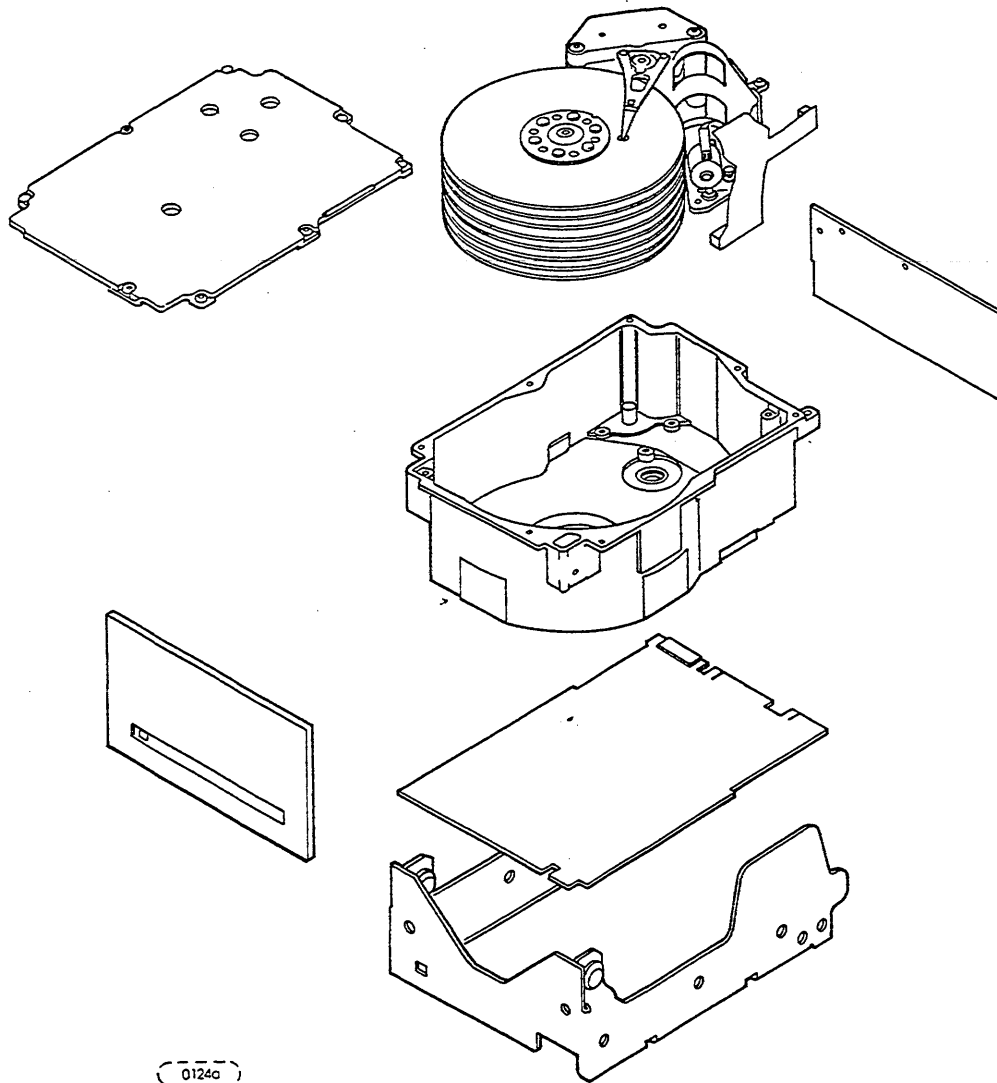

FIGURE 3.0-1. ST41200N/ND WREN 7
Refer to Figure 3.0-1 for an exploded view of the WREN 7. NEVER disassemble the WREN Head/Disc Assembly (HDA). This exploded view is for information only. Servicing items in the sealed environmental enclosure (heads, media, actuator, etc.) requires special facilities. The drive contains no parts replaceable by the user.
- Front panel (optional LED lens colors red, amber, green) - See Figure 3.0-1
- Front Panel Kit (optional LED lens colors red, amber, green) - See Figure 3.0-1